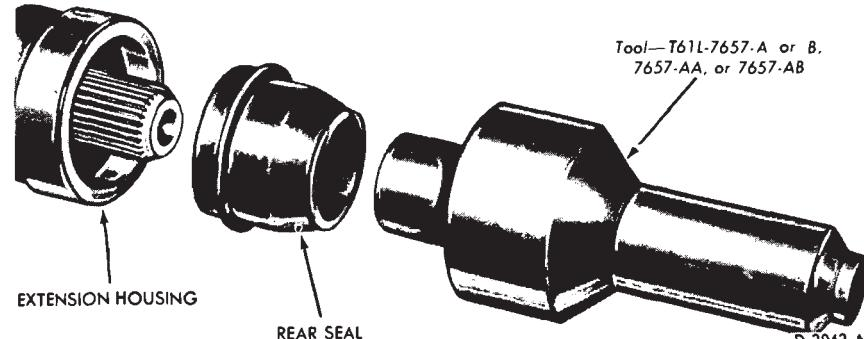

FIG. 24—Installing Extension Housing Seal
6. Install the seal into the housing with the tool shown in Fig. 24. The seal should be firmly seated in the bore. Coat the inside diameter of the fiber portion of the seal with CIAZ-19590-B lubricant.